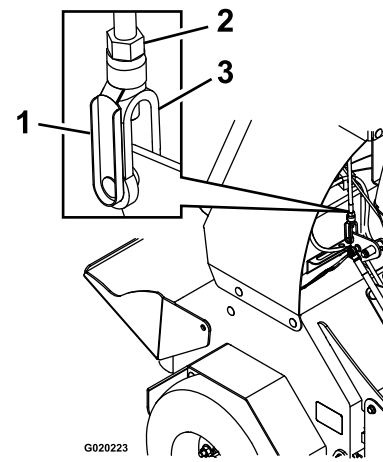

Figure 51
- If the control lever **contacts the reference bar**, rotate the fork fitting (Figure 51) counterclockwise (as viewed from the top of the machine).
- If the control lever **does not contacts the reference bar**, rotate the fork fitting (Figure 51) counterclockwise.
- Install the spring clevis pin (Figure 51) and move the control lever forward.
- F. Remove the spring-clevis pin, rotate the turnbuckle clockwise 1-additional turn, and insert the spring-clevis pin (Figure 51).